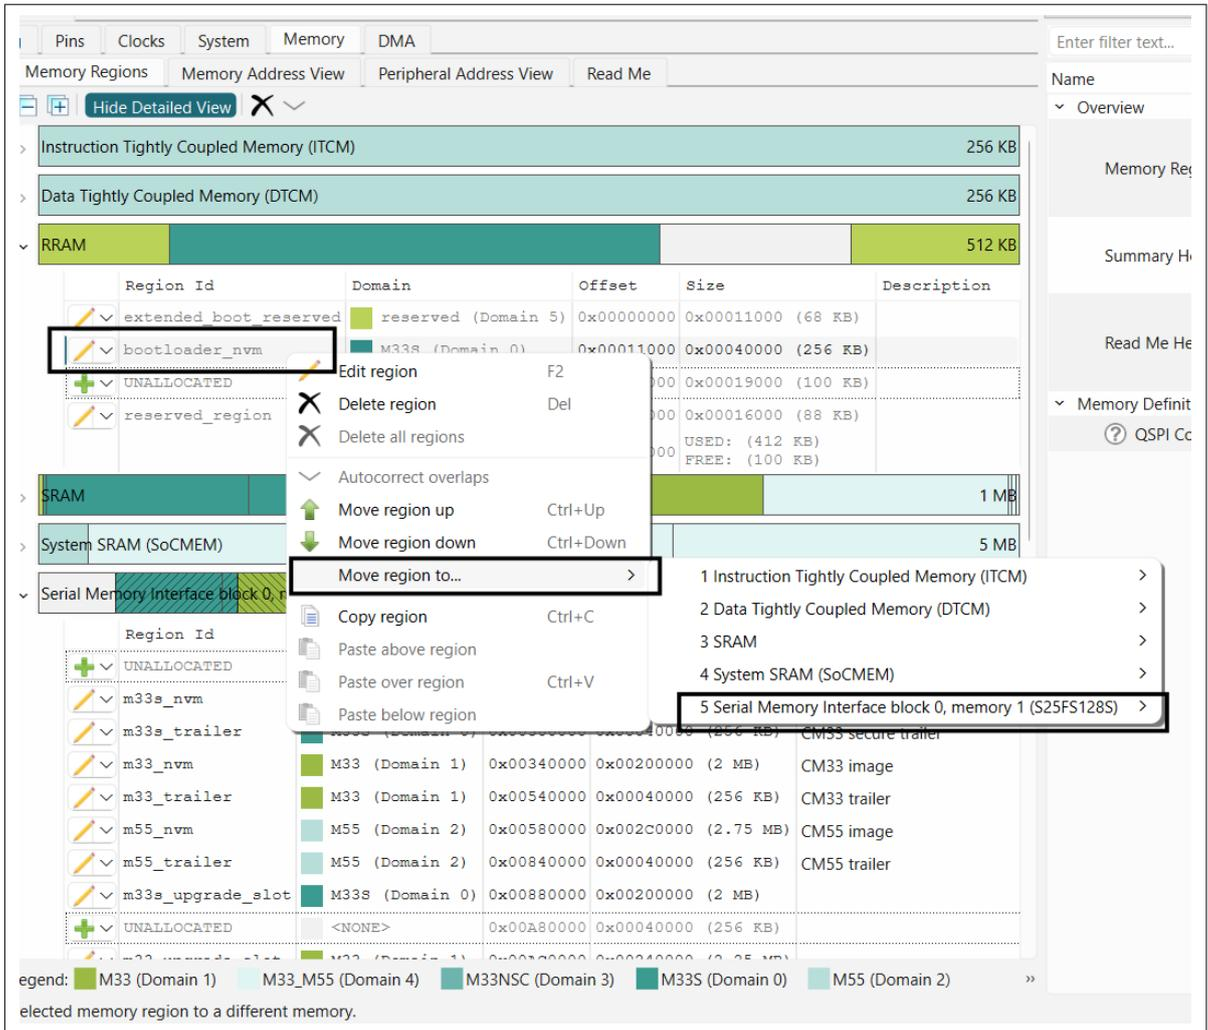

Figure 48 Move region to external flash
1. Move the "bootloader_nvmm" region in the **Memory** tab of the Device Configurator from RRAM to the Serial Memory Interface block as shown in Figure 48. Specify the offset 0x00100000